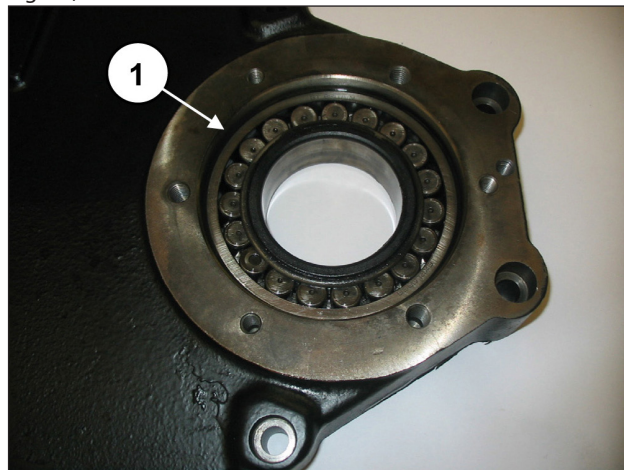

Fig. 66
Mount the bearing on the reduction gear cover (pos. ①, Fig. 66).